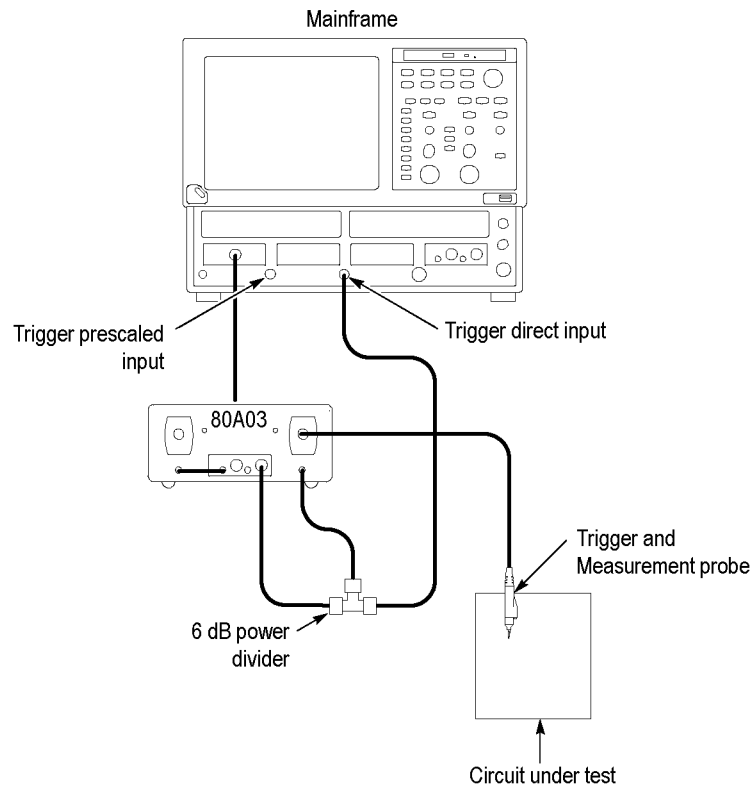

Figure 13: Setup for triggering the mainframe and viewing signals using the 80A03 TekConnect Probe Interface Module
2. Use a 0.5 m SMA cable to connect the 6 dB (2X) power divider to the disconnected CH B SMA connector on the TekConnect Probe Interface Module. (See Figure 13.)
3. Use a 0.5 m SMA cable to connect the disconnected port on the sampling module to one side of the 6 dB (2X) power divider. (See Figure 13.)
5. Attach a TekConnect trigger probe to CH B on the TekConnect Probe Interface Module. (See Figure 13.)